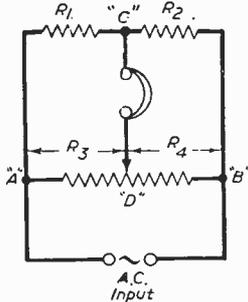
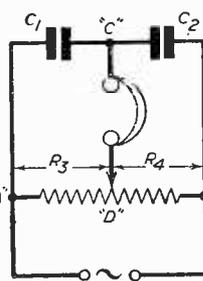

Fig. 2.—Showing modification of Fig. 1. The A.C. input may be conveniently supplied by an A.F. oscillator.
Fig. 3.—Showing how condensers may be connected in the bridge circuit instead of resistances  $R_1$  and  $R_2$  (Fig. 2).
Let us take a further step. If an A.C. voltage were applied at points "A" and "B," and an A.C. voltmeter connected between "C" and "D," the bridge would function in exactly the same manner as its D.C. counterpart. If the frequency of the A.C. were within the audible range, an earphone could be used instead of the meter, the "zero" position being that when the earphone is silent. See Fig. 2.
A.C. in cycles per second, and  $C$  is the capacity in farads. If we re-draw Fig. 2, using condensers (as in Fig. 3) instead of the resistances  $R_1$  and  $R_2$ ,